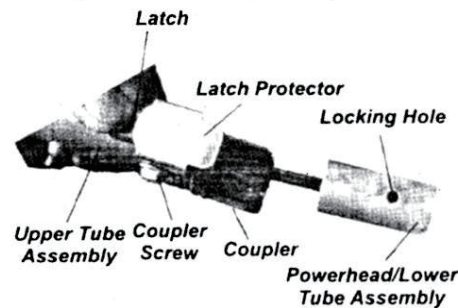

Figure 1
3. Depress the latch and insert the powerhead/lower tube assembly into the coupler until it bottoms. Release the latch. Rock the upper tube assembly back and forth until you are sure it snaps in place by the coupler lock. See Figure 1.